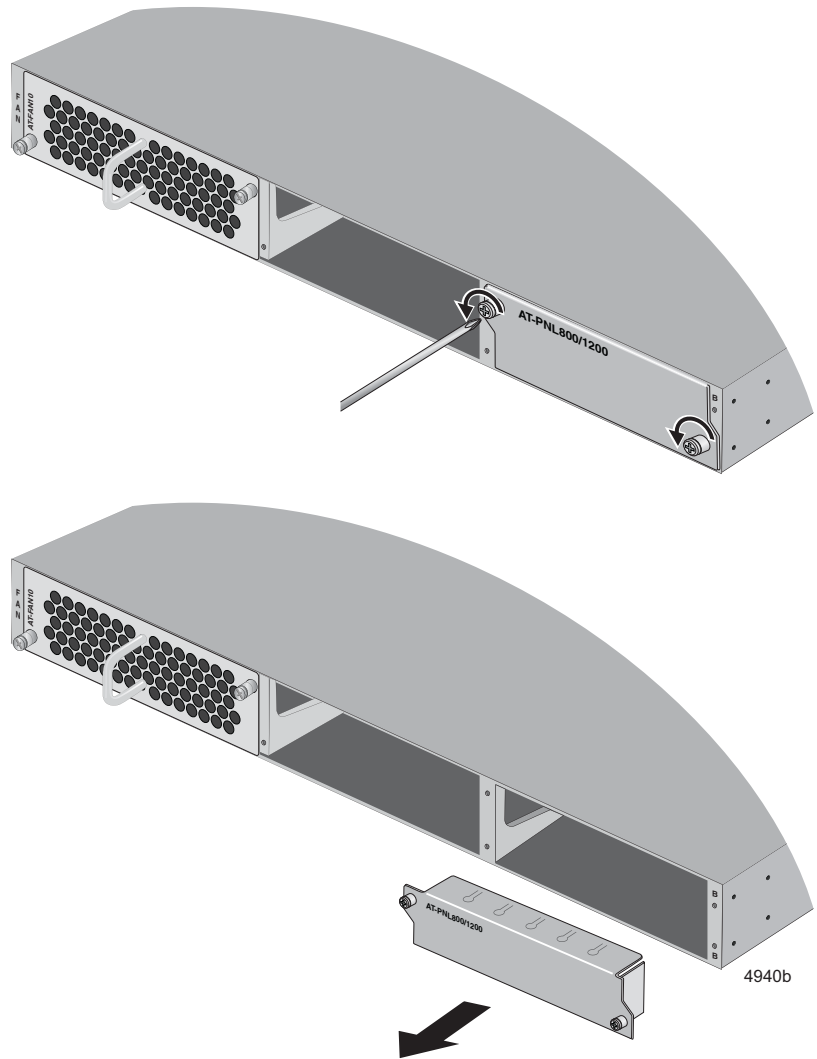

Figure 26. Removing the PNL800/1200 Blank Panel
2. Use a cross-head screwdriver to loosen the two captive screws on the PNL800/1200 blank panel covering power supply slot B on the back panel and remove it from the switch. Refer to Figure 26 on page 91.